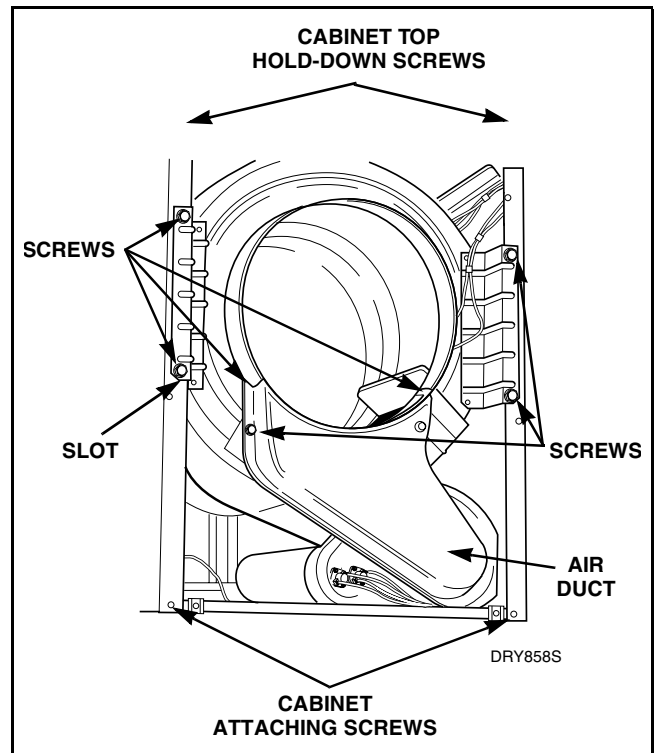

Figure 30
- Remove two cabinet top hold-down screws. Refer to *Figure 30*.
- Remove four screws holding bulkhead to front flange of cabinet and lift complete bulkhead assembly out of slots in cabinet. Refer to *Figure 30*.
- Remove four screws holding bulkhead to front flange of cabinet. Lift complete bulkhead assembly out of slots in cabinet. Refer to *Figure 30*.
- f. Remove four screws holding bulkhead to front flange of cabinet. Lift complete bulkhead assembly out of slots in cabinet. Refer to *Figure 30*.
- g. Loosen two cabinet top hold-down screws. Refer to *Figure 30*.
- d. Remove two cabinet top hold-down screws. Refer to *Figure 30*.
- h. Remove four screws holding bulkhead to front flange of cabinet. Lift complete bulkhead assembly out of slots in cabinet. Refer to *Figure 30*.